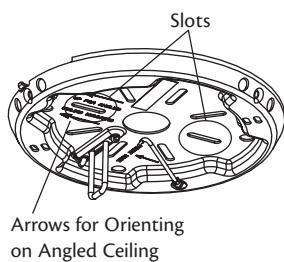

Figure 10 - Locating the slotted holes to use
4. Align the slotted holes (refer to Figure 10) in the ceiling plate with the pilot holes in the wood support structure. Note: The isolation pads should be flush against the ceiling.
For Angled Ceilings: Be sure to orient the ceiling plate so that the arrows on the ceiling plate are pointing towards the ceiling peak. Refer to Figure 10.